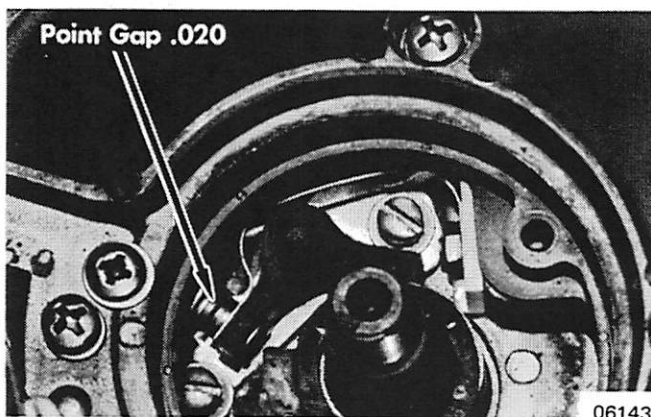

Figure 1. Point Adjustment
3. Rotate crankshaft to position contact point cam follower at high point on cam. Adjust point to .020". (Figure 1) Repeat procedure on second set of points and reinstall flywheel assembly.